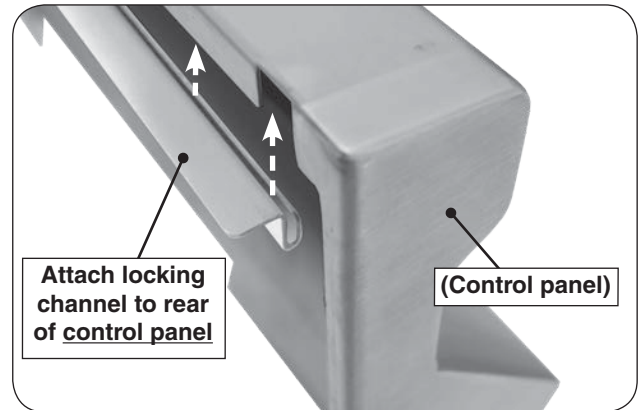

Fig. 23-1 Attach cooking grid locking channel
1. Attach the cooking grid locking channel to the rear top lip of the control panel (see Fig. 23-1).